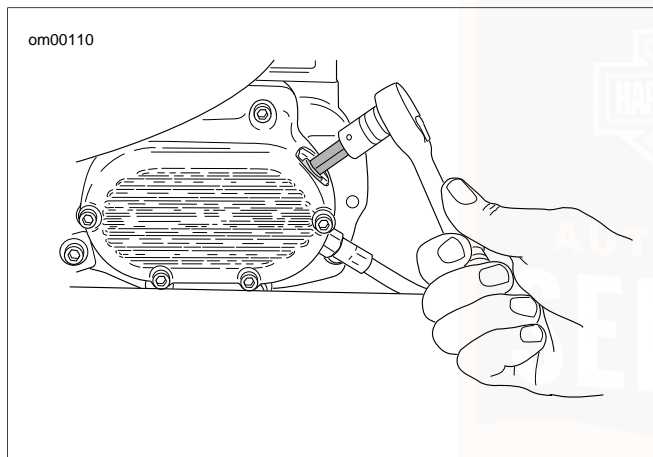

Figure 52. Transmission Lubricant Check/Fill
1. See Figure 52. Remove the threaded check/fill plug.